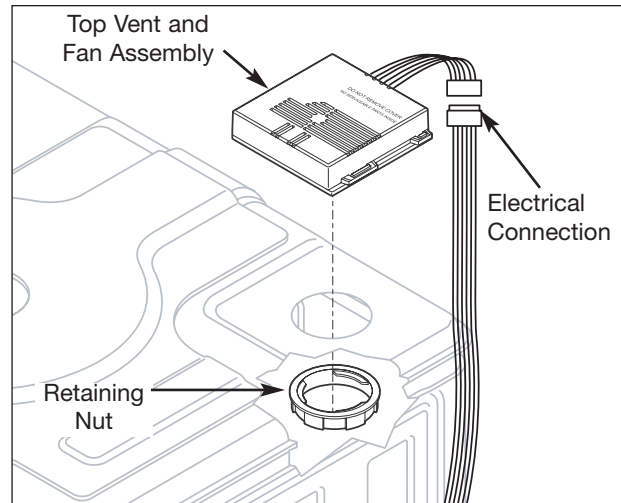

Figure 5-30. Top Vent & Fan Assembly
3. Reach inside tub, turn retaining nut clockwise until retaining nut falls from the top vent assembly. (See Figure 5-30)